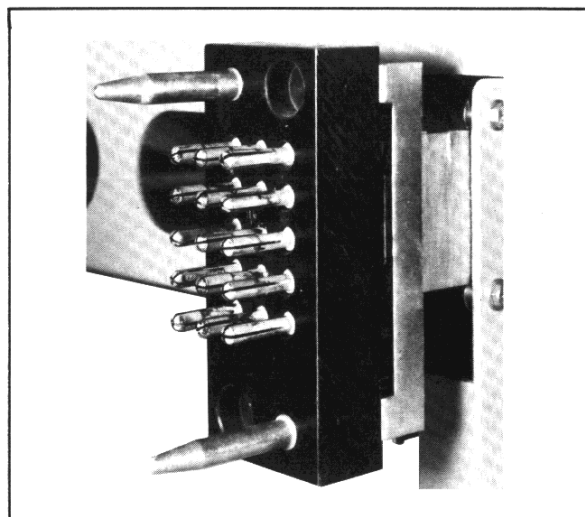

Figure 1-3
1.2.2 Control Power Connection To Breaker (Figures 1-3 & 1-4)